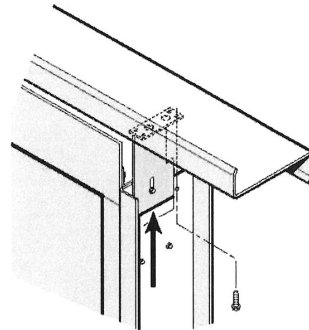

Figure 3
4. Back out the screws holding top jamb clips, and slide clips straight up to the girt. Secure the door to the girt through the girt clips with the self-drilling screws provided. (*Figure 3*)
6. Screw down threshold with the (4) Tap-Con anchors provided. Caulk or grout if needed.
4. Back out the screws holding top jamb clips, and slide clips straight up to the girt. Secure the door to the girt through the girt clips with the self-drilling screws provided. (Figure 3)
4. Continue laying block, continually checking plumb and square of door. Repeat step 1 at approximately 48 and 80 inches A.A.F. (Figure 3)